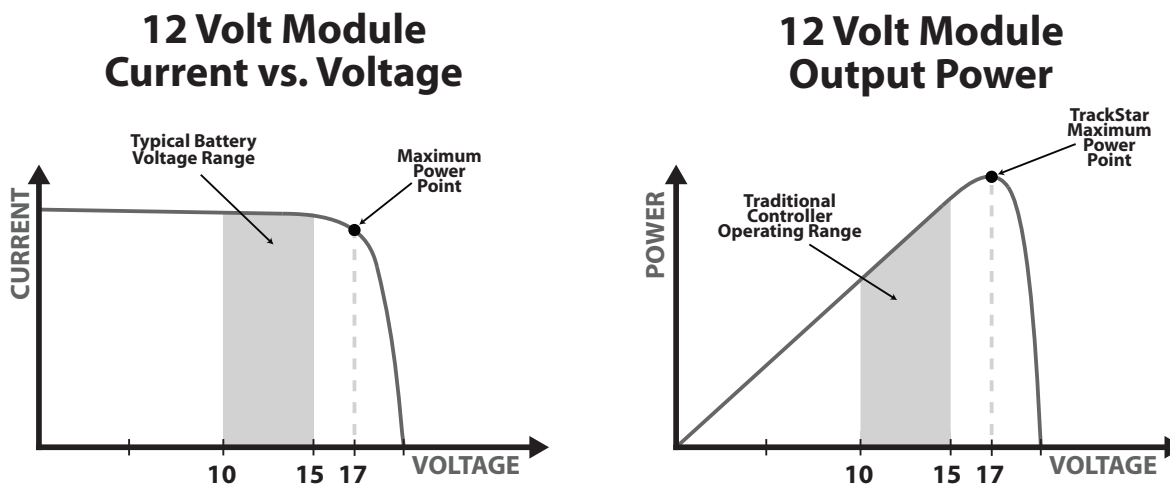

Figure 4-1. Nominal 12 Volt Solar Module I-V curve and output power graph.
Traditional controllers connect the solar module directly to the battery when recharging. This requires that the solar module operate in a voltage range that is usually below the module's  $V_{mp}$ . In a 12 Volt system for example, the battery voltage may range from 10 - 15 Vdc, but the module's  $V_{mp}$  is typically around 16 or 17 Volts. Figure 4-1 shows typical current vs. voltage and power output curves for a nominal 12 Volt off-grid module.
The array  $V_{mp}$  is the voltage where the product of output current and voltage (Amps x Volts) is greatest, which falls on the “knee” of the solar module I-V curve as shown on the left in Figure 4-1.
The TriStar MPPT 150V provides seven (7) standard battery charging settings that are selected with the settings switches (see Figure 4.1 above). These standard charging settings are suitable for lead-acid batteries ranging from sealed (gel, AGM, maintenance-free) to Flooded and L-16 cells. In addition, an 8th charging setting provides for custom set-points using MSView™ PC software.